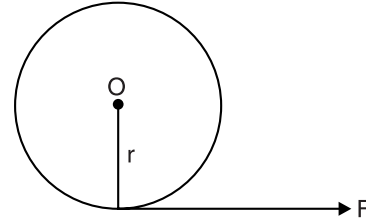

Fig. 4.1
- (ii) Suppose a force of F newtons is maintained tangentially at a radius r metres from O as shown in Fig. 4.1. In one revolution, the point of application of force travels through a distance of $2\pi r$ metres.